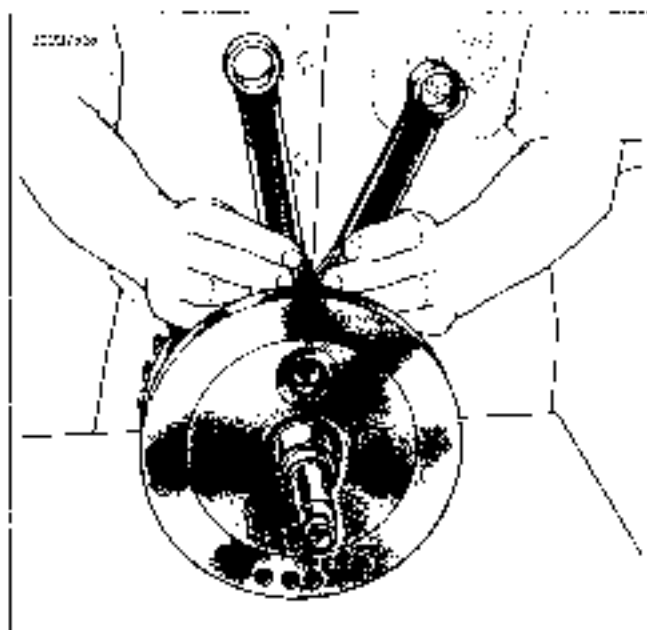

Figure 3-163. Connecting Rod Bearing Clearance
2. Check connecting rod bearing clearance. Orient the assembly as shown in Figure 3-163.